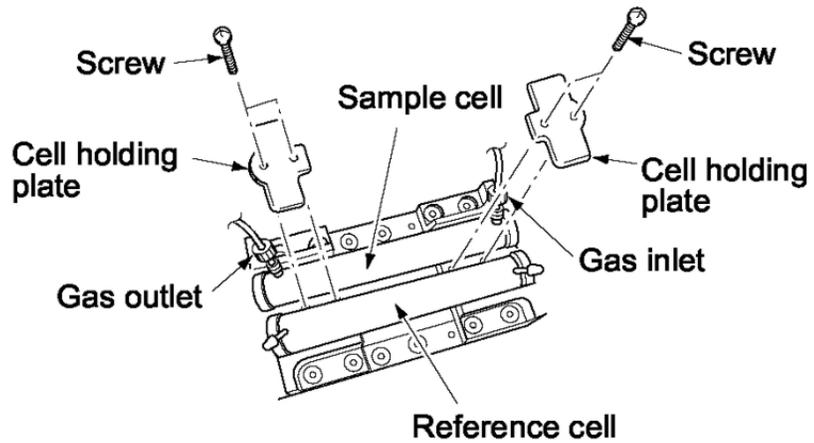

Figure 4-2: Sample Cell Removal
4. Loosen both right and left screws for cell holding plate and remove only the sample cell. See Figure 4-2.